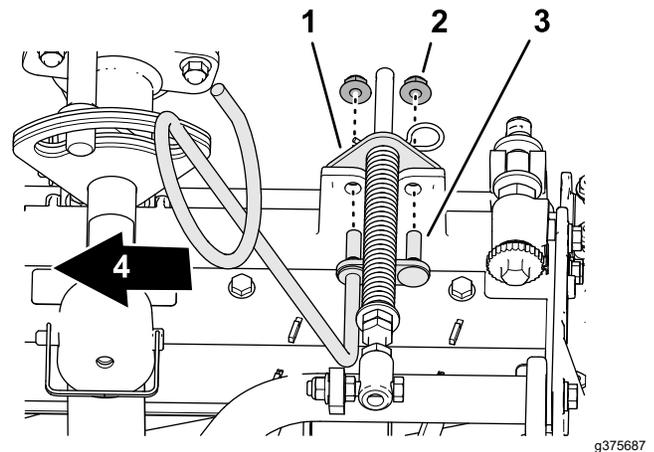

Figure 11
5. Align the studs of the left hose guide with the holes in the cutting-unit frame and the turf-compensator bracket (Figure 11).